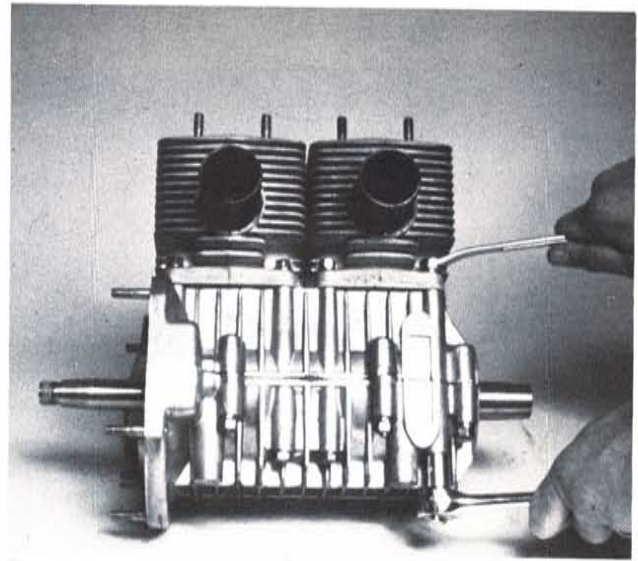

FIG. 19
18. Next remove the eight nuts that secure cylinder blocks. Pull cylinders from pistons. (Fig. 19) Keep #1 and #2 cylinder parts separate.